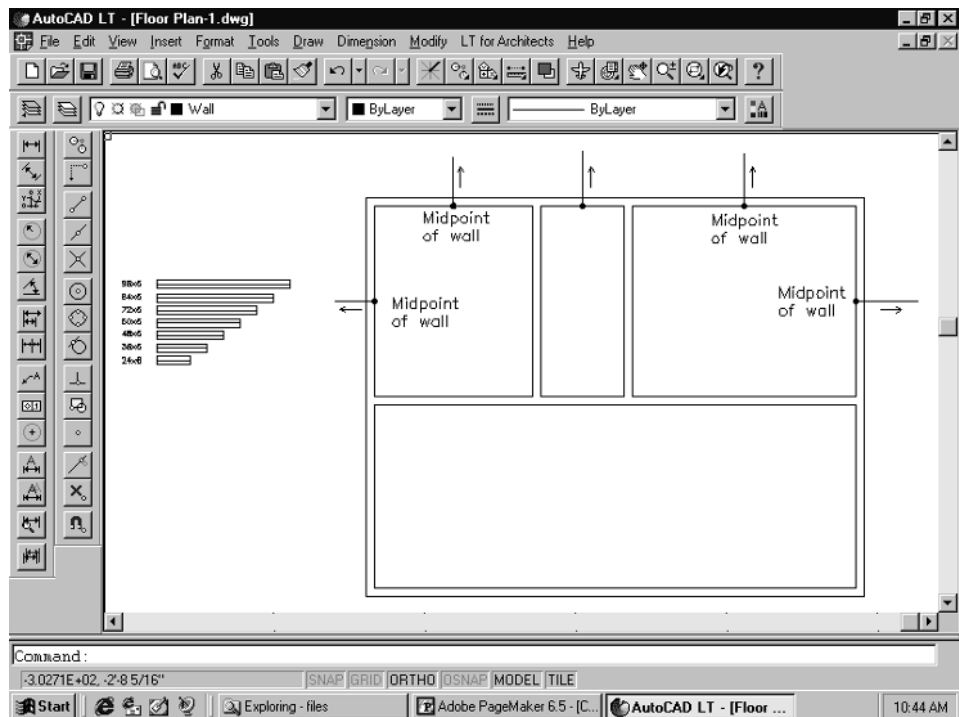
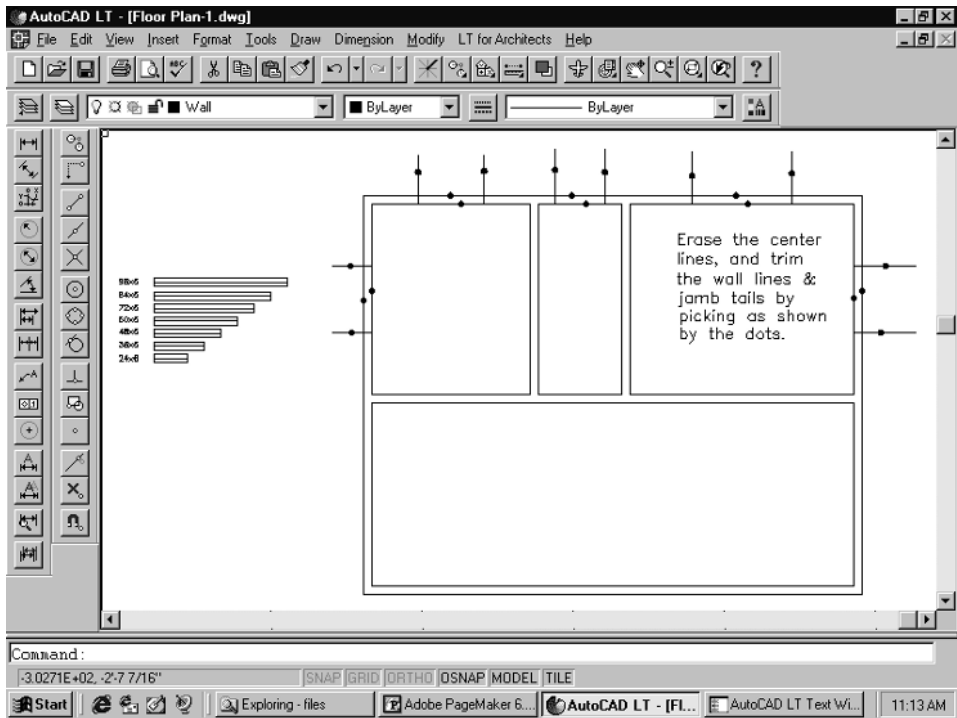

Figure 2-24
Figure 2-28
5. Next, you need to trim out the wall openings and the window jamb tails. Before you do this, erase the center construction lines you drew back in Figure 2-24. Use the Erase command from the Modify pull-down menu to do this. Next, select **Trim** from the Modify pull-down. The *Select objects* prompt will appear. Hit **Enter**. This will select all objects in the drawing as cutting edges. It is much easier than individually selecting each line you want as a cutting edge. If necessary, zoom in closer to each area you want to trim by using the Zoom|Window command. Then, pick each of the wall lines between the window jamb lines and the ends of the jamb lines. They will trim out as you pick them. Figure 2-28 shows you where to pick.